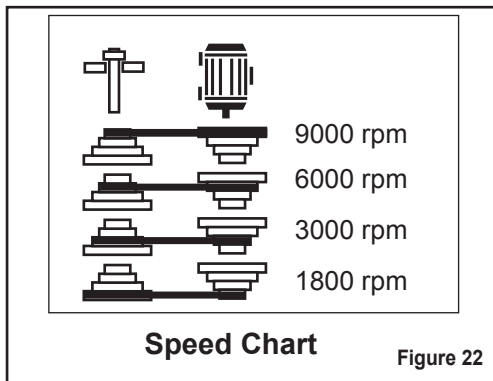

Figure 22
4. Select the desired speed. There are four speeds: 1800 R.P.M., 3000 R.P.M., 6000 R.P.M., 9,000 R.P.M. Figure 22 shows the belt positions for each available speed.